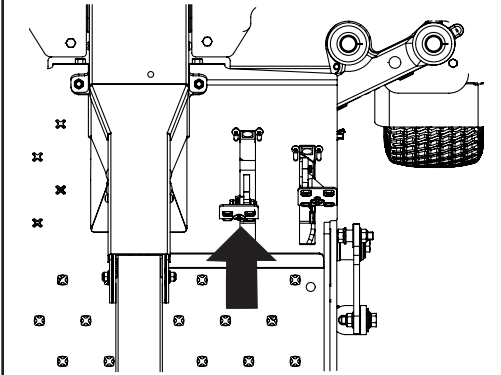

Figure 3-4
- Slowly push the forward drive pedal forward. The tractor will start to move forward. See Figure 3-4.